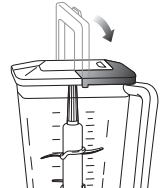

Fig. 5
- 9 Holding the lid by the handle in the upright position, place it on top of the pitcher aligning the arrow (↘) located on the lid with the arrow (↗) located on the pitcher's handle. (Fig. 5)
- 7 When you have reached your desired consistency, stop the appliance by removing your hand from the Single Serve button. To remove the Nutri Ninja Cup turn it counter-clockwise **(Fig. 4)** and pull straight up to remove. **(Fig. 5)**